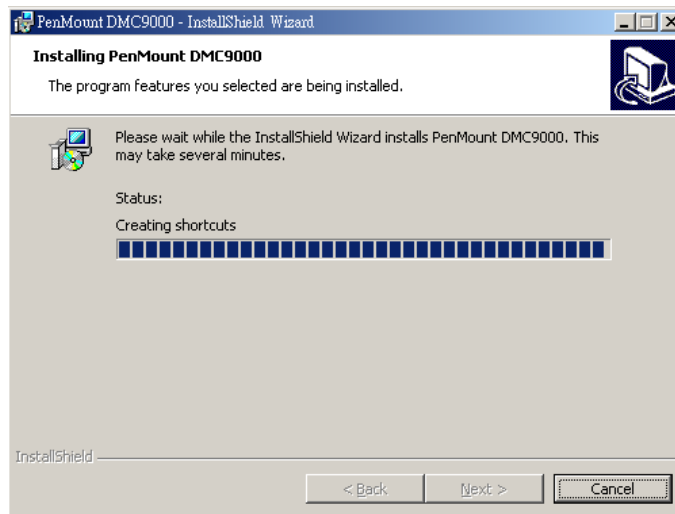

Figure 7-44: Installing PenMount DMC9000
Step 6: Click **INSTALL** to continue. The Installing PenMount DMC9000 screen appears as the program is installed (Figure 7-44).